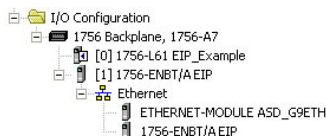

Figure 80: I/O Configuration Tree
- 6) After adding the I/O Module to the configuration, the full I/O Configuration tree should appear similar to Figure 80.